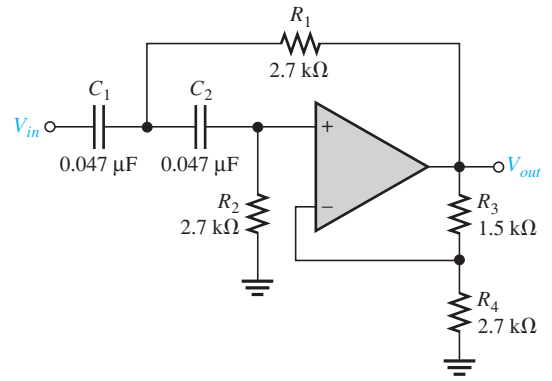

FIGURE 9-32
- 17. For the filter in Figure 9-32,